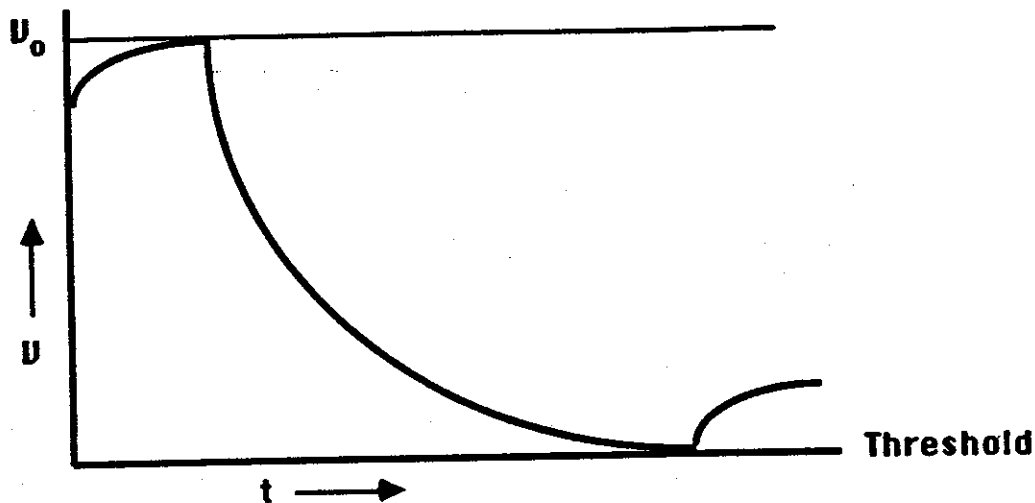

Fig. 8-8
- (g) Measure the height of the decay curve above the threshold (shown in Fig. 8-8) for 5 or 6 different instants of time. These readings can be obtained by changing the x-position suitably. (Ask your instructor, if necessary.)
- (j) Set R to about 4000 ohms and make the necessary adjustments to obtain the display as shown in Fig. 8-8.